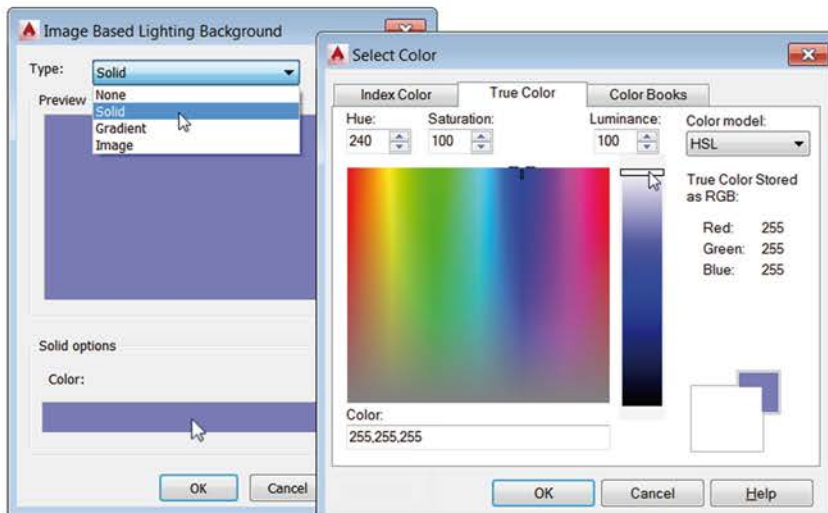

Fig. 16.18 The Image Based Lighting Background dialog
3. In the **Background** dialog select **Solid** in the **Type** drop-down list. *Click* in the **Color** field. The **Select Color** dialog appears (Fig. 16.18).